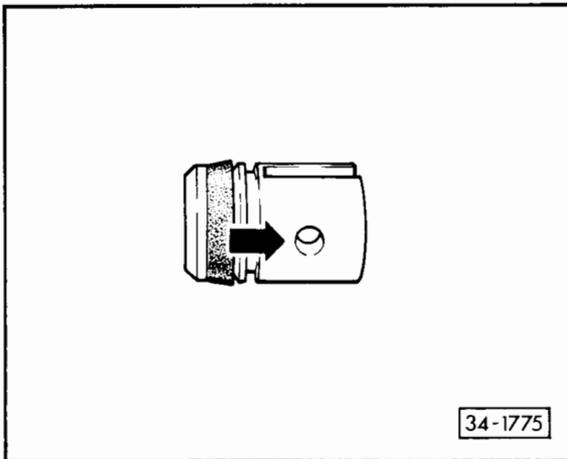

Fig. 6 Bearing position
- Note installation position of sealing diaphragm – Fig. 6